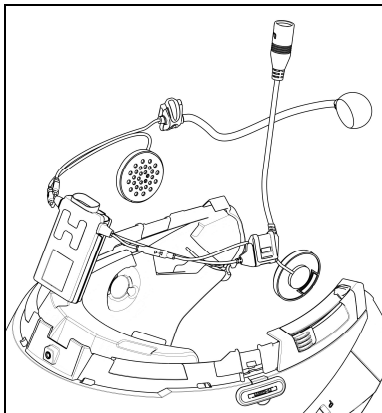

Fig. 3
- Place the system in the special housing in the back of the helmet, pushing it all the way into the groove (Fig. 3).